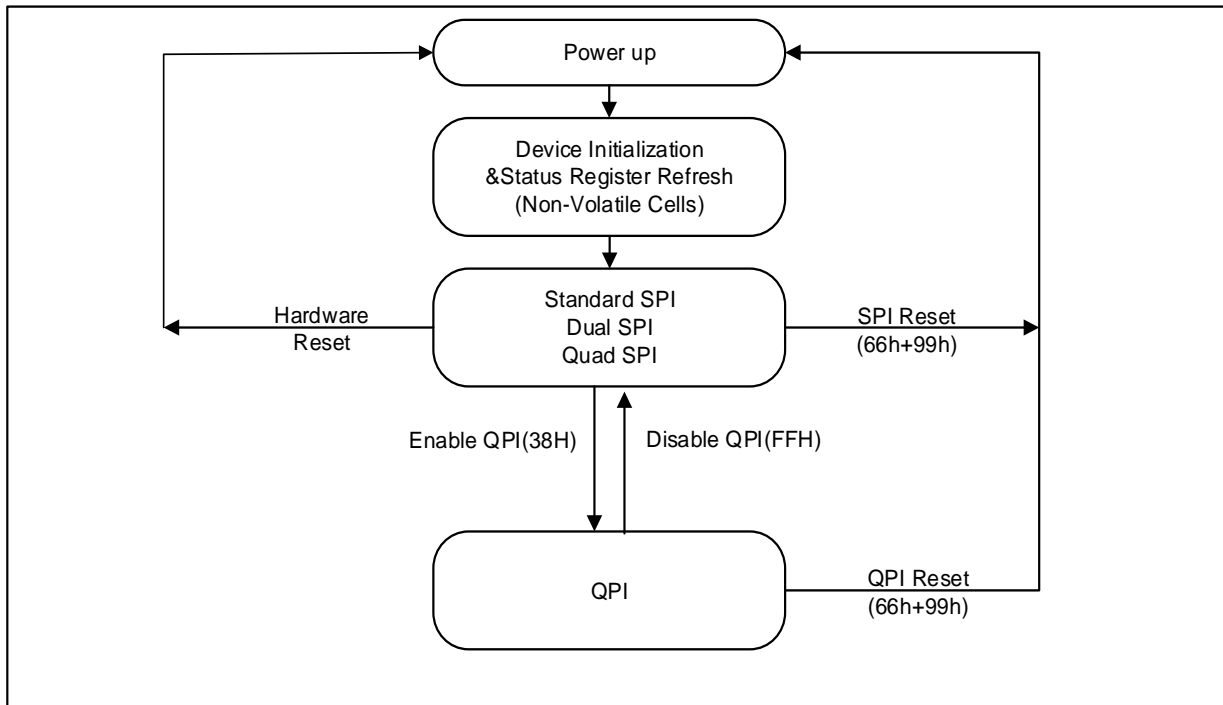

Figure 3. XM25QW128C Serial Flash Memory Operation Diagram
The XM25QW128C supports Quad Peripheral Interface (QPI) operations only when the device is switched from Standard/Dual/Quad SPI mode to QPI mode using the “Enter QPI (38h)” instruction. The typical SPI protocol requires that the byte-long instruction code being shifted into the device only via DI pin in eight serial clocks. The QPI mode utilizes all four IO pins to input the instruction code, thus only two serial clocks are required. This can significantly reduce the SPI instruction overhead and improve system performance in an XIP environment. Standard/Dual/Quad SPI mode and QPI mode are exclusive. Only one mode can be active at any given time. “Enter QPI (38h)” and “Exit QPI (FFh)” instructions are used to switch between these two modes. Upon power-up or after a software reset using “Reset (99h)” instruction, the default state of the device is Standard/Dual/Quad SPI mode. To enable QPI mode, the non-volatile Quad Enable bit (QE) in Status Register-2 is required to be set. When using QPI instructions, the DI and DO pins become bidirectional IO0 and IO1, and the /WP and /HOLD pins become IO2 and IO3 respectively. See Figure 3 for the device operation modes.